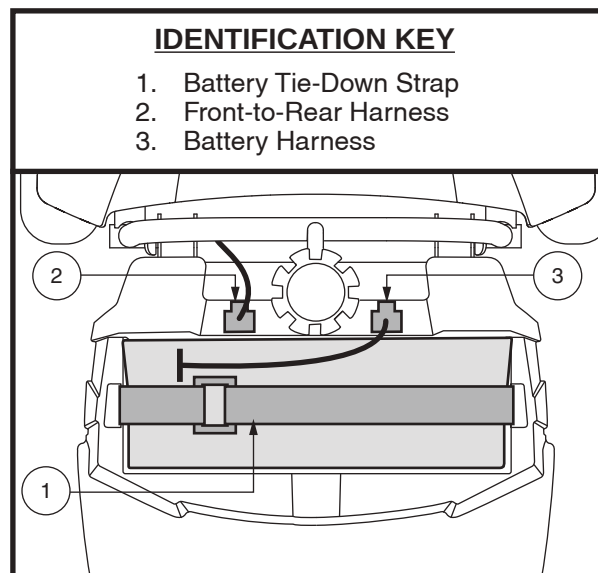

Figure 25. Battery Tie-down Strap
1. Disconnect the battery harness and remove the battery pack from the Travel Scooter. See figure 25.
2. Disconnect the battery harnesses and tie-down strap then remove the battery pack from the Travel Scooter. See figure 25.